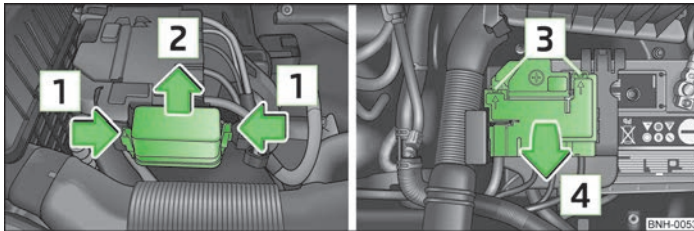

Fig. 124 Vehicle battery: Cover for the fuse box (variant 1)
- Press together the interlocks of the cover simultaneously in the direction of the arrow **1** » Fig. 124.